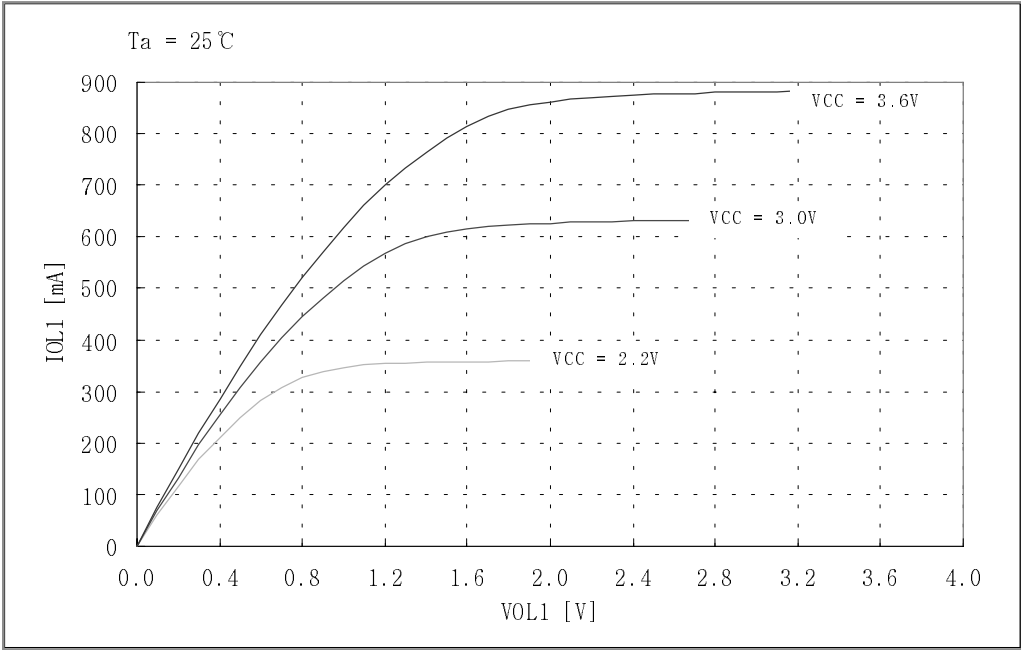

Fig 7-2. IOL1 vs. VOL1 Graph. (REMOUT port)
*2 Refer to < Fig.7-2 I_{OL1} vs. V_{OL1} Graph >